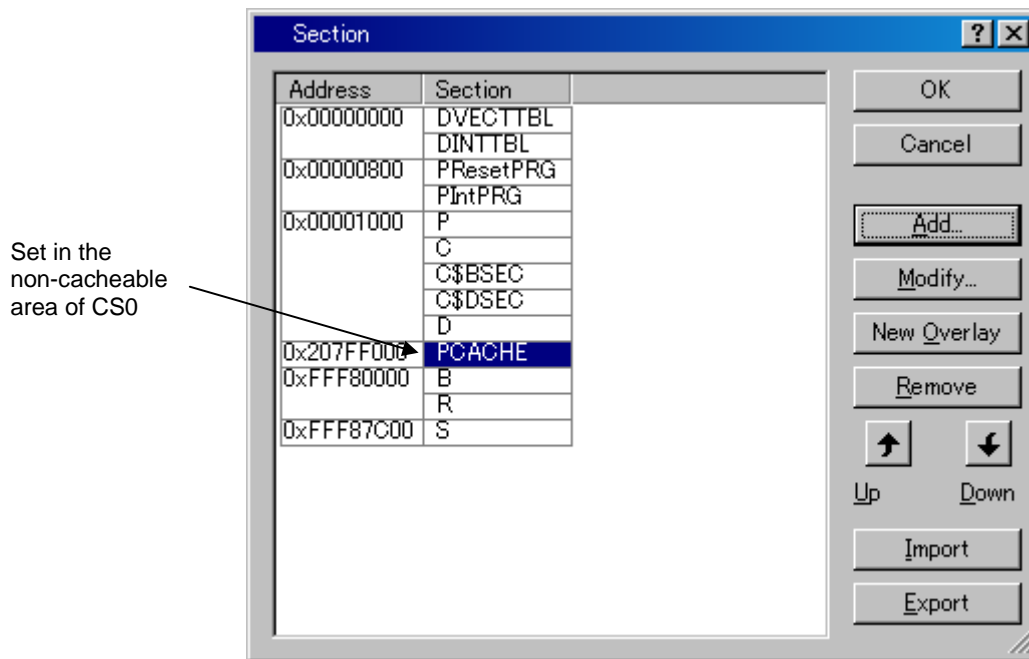

Figure 5.3.14 Section Settings (6)
(6) The section name will be added, and it returns to [Section] dialog box. Confirm if the section has been set as shown in Figure 5.3.14, and press "OK".